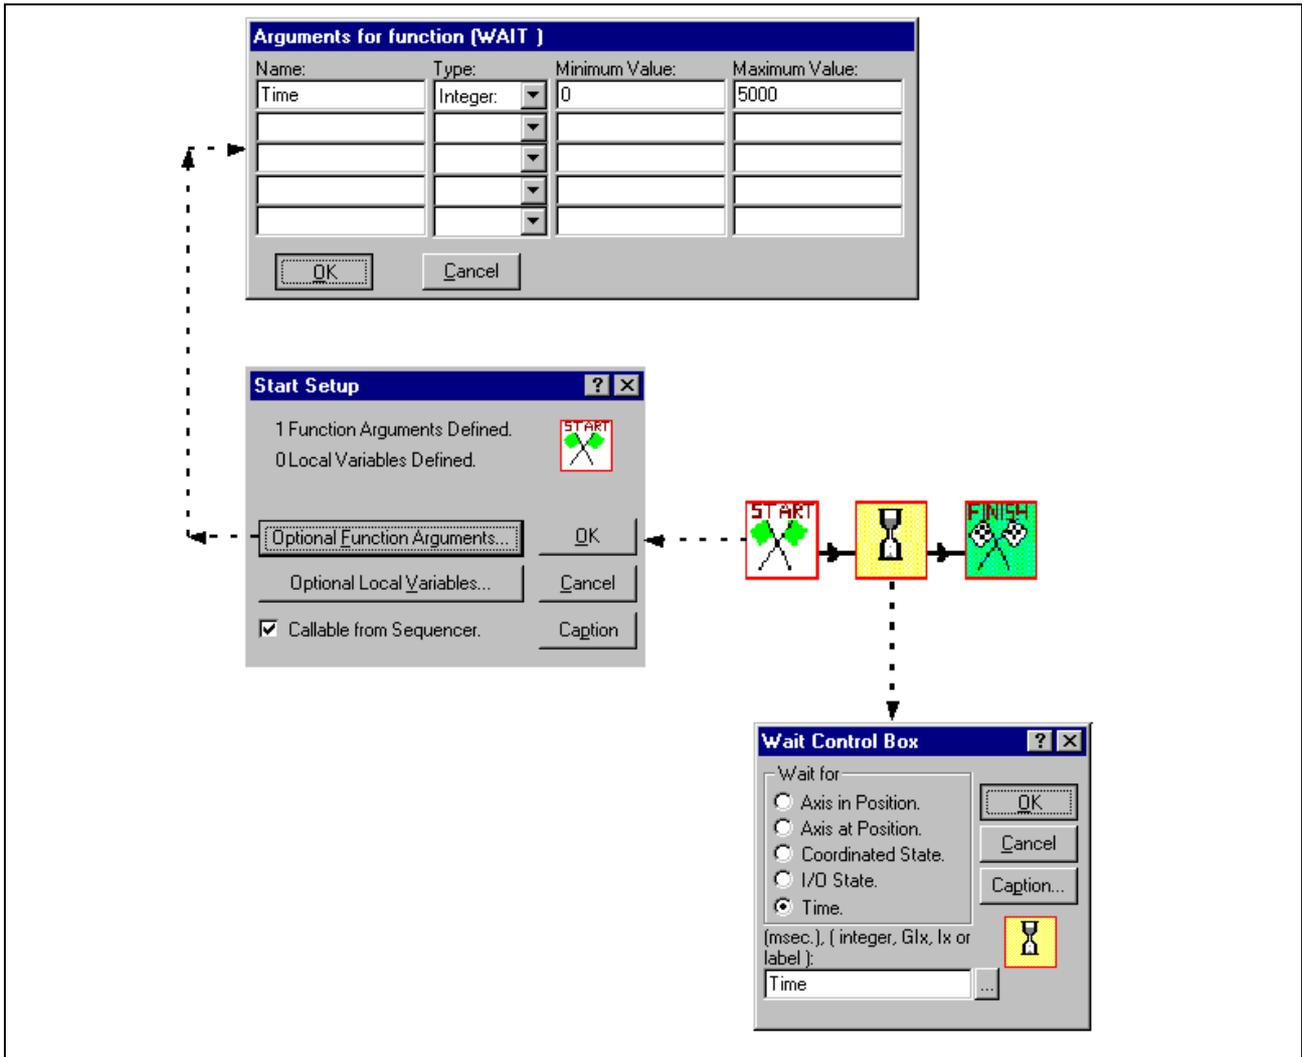

Figure D-5: WAIT subroutine
3. Create the subroutine illustrated below according to the selections and values given in their corresponding dialog boxes. Refer to Program Layout - Function / Subroutine - WAIT, Figure D-5.